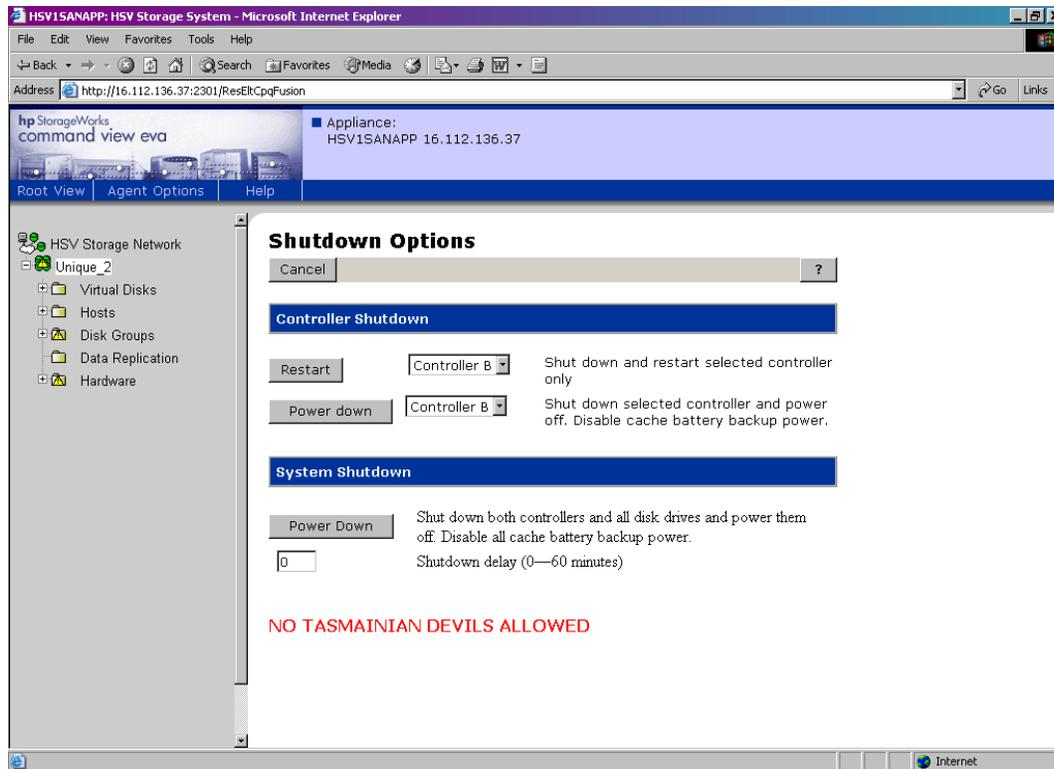

Figure 2.5. Shutdown Options page
3. Click **Shut down** at the top of the Content pane. A screen similar to the one shown in Figure 2.5 displays.